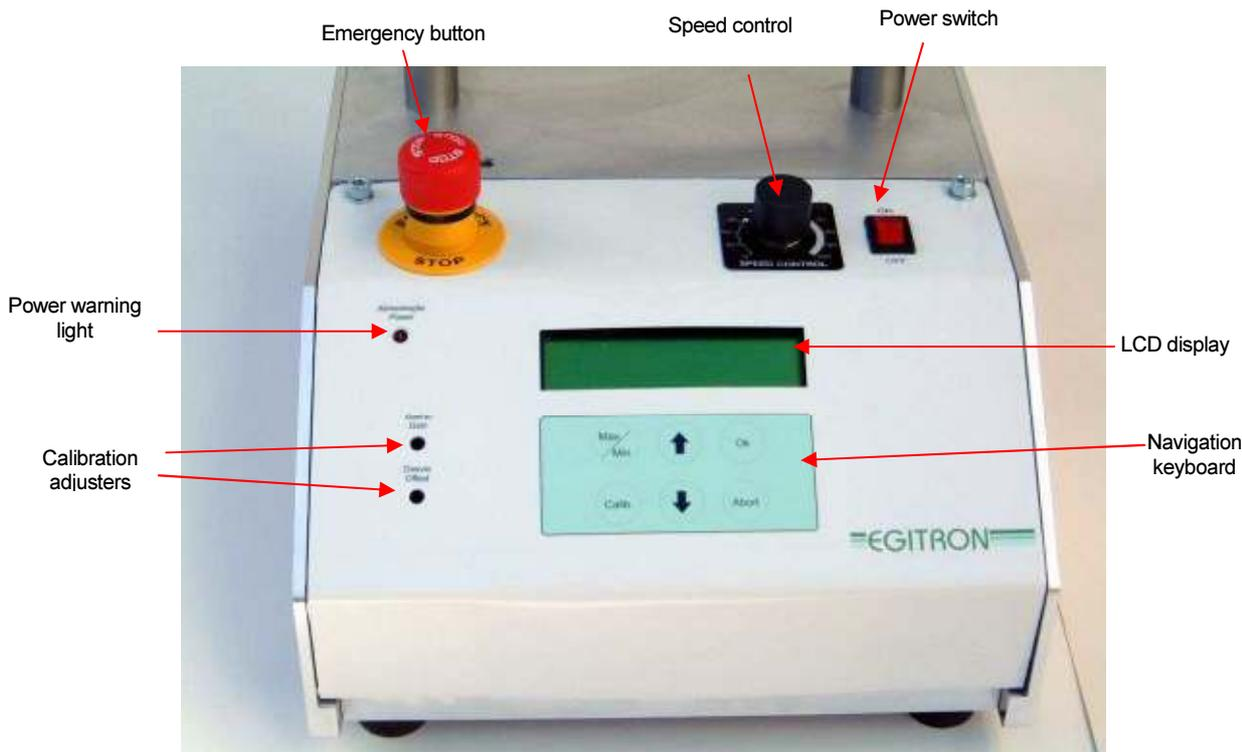

Figure 9 – Command box front panel
Several cables will be connected to this box, like the power supply and the communication cables. The frontal panel (figure 9) has a LCD display, a navigating keyboard to perform several operations, a power switch, an emergency button and a speed control device to adjust the equipment displacement velocity. There are also two calibration adjusters, to be used only by qualified personal in calibration operations.
4. If is required to change the velocity, it should be adjusted through the speed control at the front panel, like illustrated by figure 9.